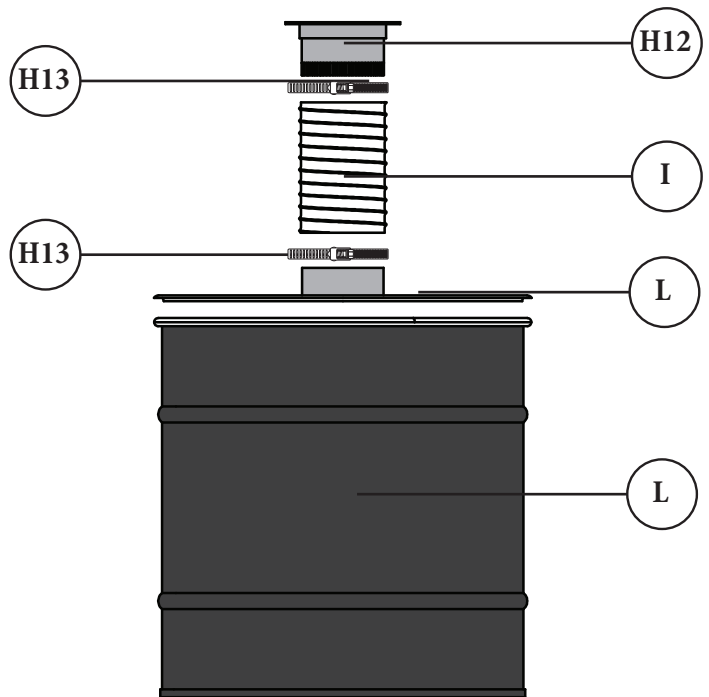

FIG. 21
Attach the Flex Hose (I) to the inlet on the Drum Lid (L) and secure it in place using a Hose Clamp (H13). Loosely place a second Hose Clamp (H13) onto the hose and then move the Drum (L) underneath the Stand Body (F). Connect the Flex Hose (I) to the Collar (H12) and secure in place using the additional Hose Clamp (H12) [FIG. 21].